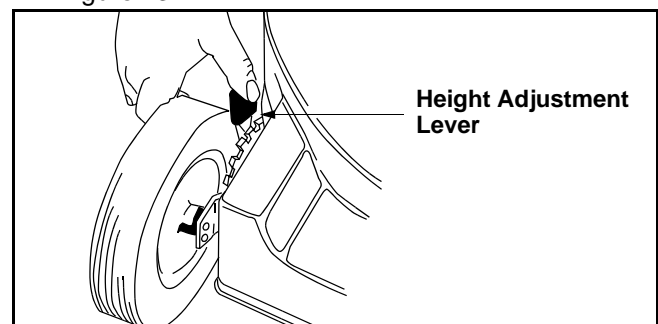

Figure 13
- Simply depress the lever towards the wheel and move the lever assembly to desired position. See Figure 13.